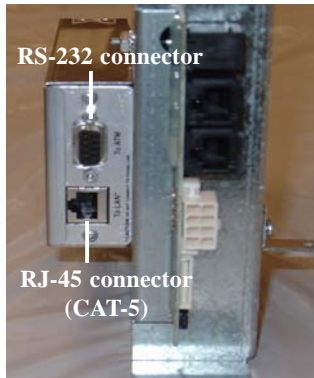

Figure 2-33. External Ethernet mounted (side view).
16. Mount the bracket (w/external Ethernet assembly) over the screws protruding on back side of Main board assembly shown in Figure 32. Secure bracket with the two (2) #8-32 hex nuts provided. After assembly is secured, stand Main board assembly up. Figure 2-33 shows correct position of external Ethernet connections as viewed from side.